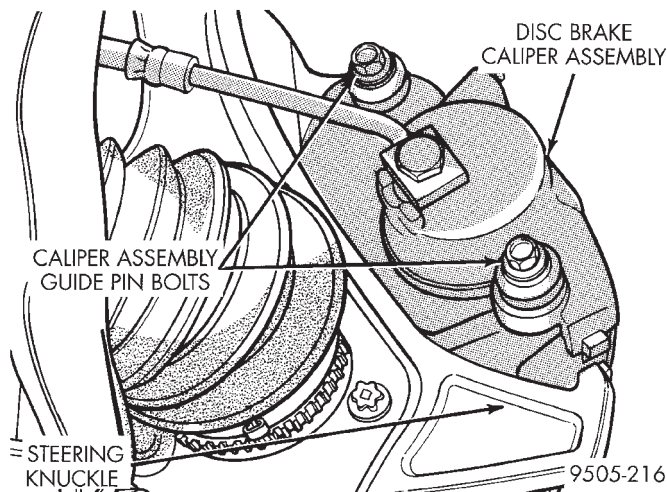

**Fig. 47 Removing Caliper Guide Pin Bolts**
(3) Slightly pry the piston back into the bore of the disc brake caliper. The piston is to be pryed back by inserting a soft tool (such as a trim stick) between the inboard brake shoe and the rotor and prying against the inboard brake shoe. This will force the piston back into the caliper.
(4) Remove the 2 brake caliper to steering knuckle guide pin bolts (Fig. 47).
(8) Install the caliper guide pin bolts (Fig. 47) and tighten to a torque of 22 N·m (16 ft. lbs.).
(9) Install the wheel and tire assembly.
(10) Tighten the wheel mounting stud nuts in proper sequence until all nuts are torqued to half specification. Then repeat the tightening sequence to the full specified torque of 135 N·m (100 ft. lbs.).
(11) Remove jackstands or lower hoist. **Before moving vehicle, pump the brake pedal several times to insure the vehicle has a firm brake pedal.**
(12) Road test the vehicle and make several stops to wear off any foreign material on the brakes and to seat the brake shoes.